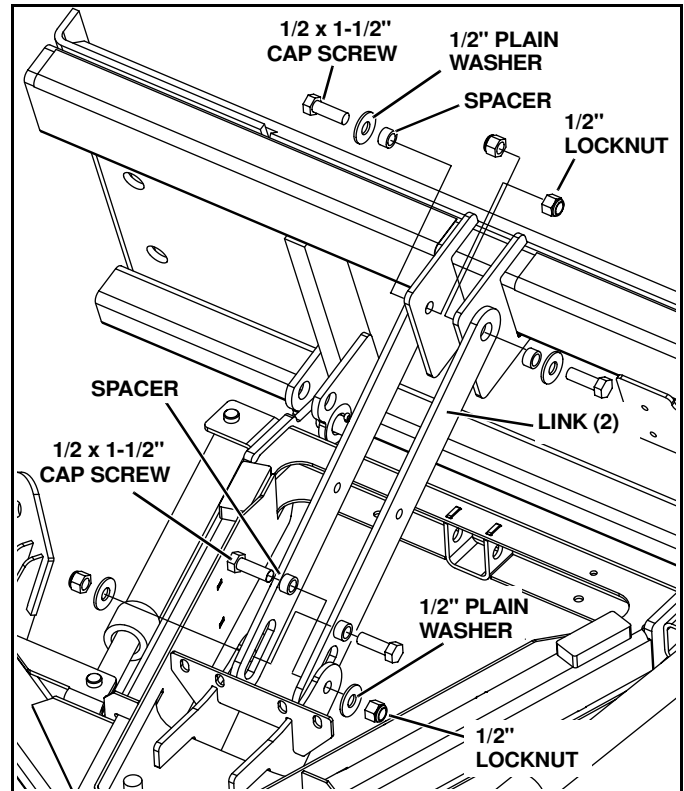

Figure 2-8
4. Located the slider links and mount them to the adaptor plate. Insert spacers into the slider link pivot hole. Insert the 1/2 x 1-1/2" cap screws with 1/2" plain washers (to retain the bushing in position), and attach a 1/2" lock nut on the inside of the adaptor plate pivot point. Tighten the lock nuts down. (See Figure 2-8)